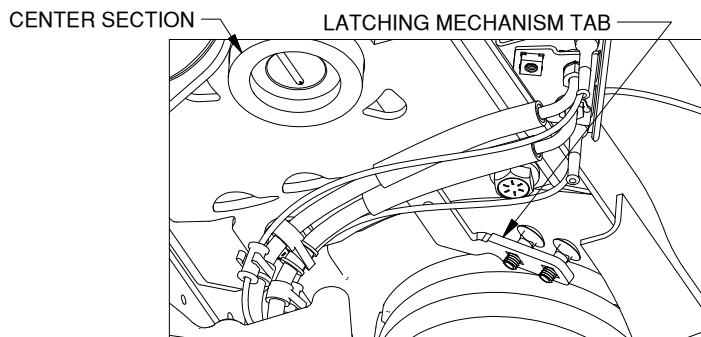

Figure D3: Looking up at center section
- 3. Install bolts.** Retract the latching mechanism by pulling on the tab with the square holes and pushing it toward the cab. From the top down, insert a 3/8" carriage bolt in each of the square holes in the latching mechanism, see Figure D3.